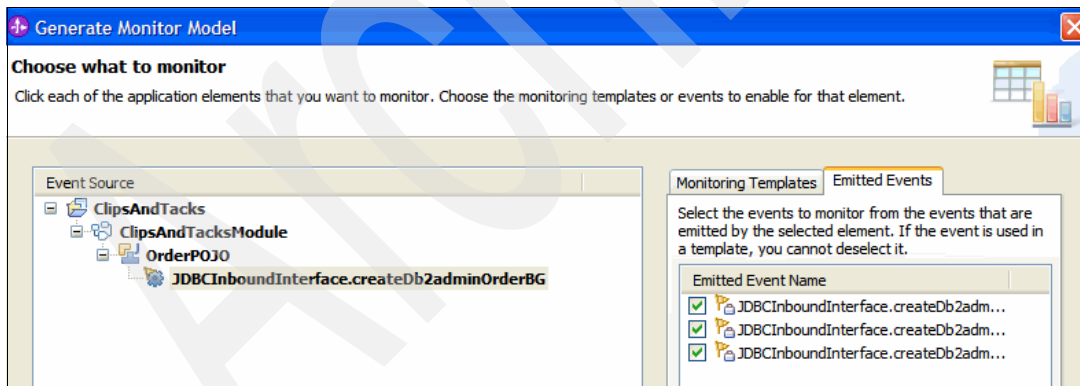

Figure 6-46 Selecting all emitted events
5. In the Generate Monitor Model – Choose what to monitor window (Figure 6-46):